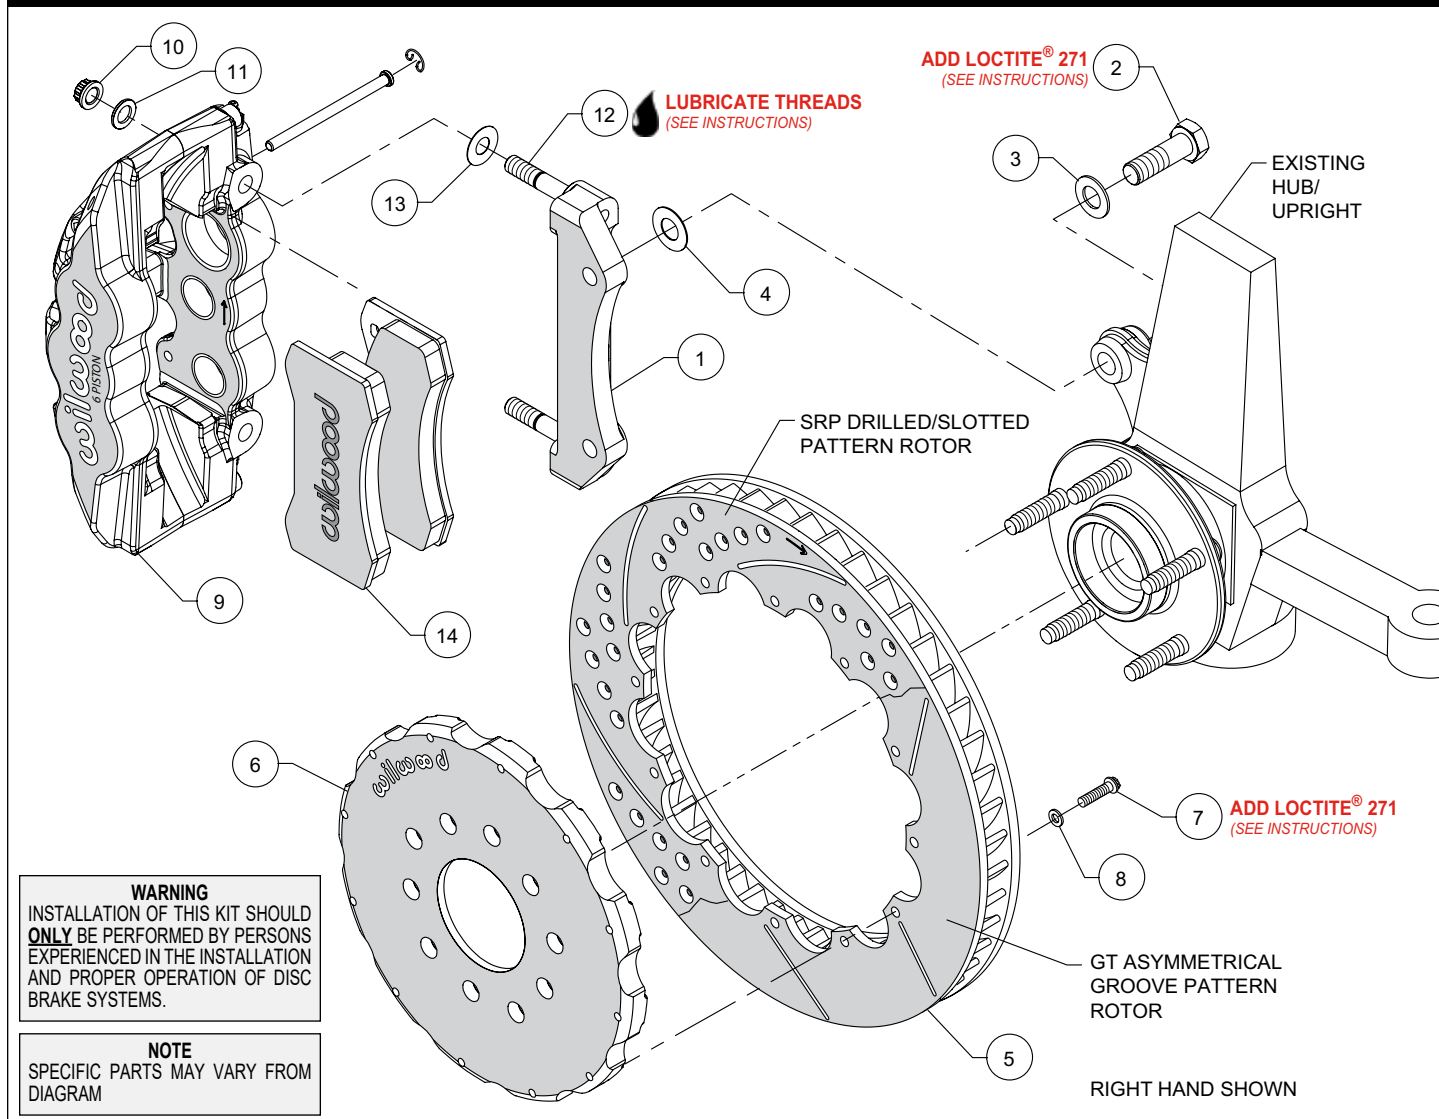
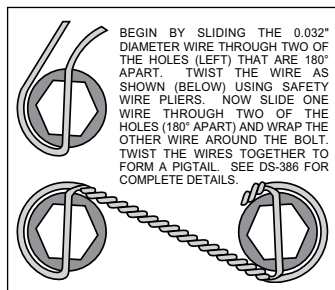

Figure 1. Typical Installation Configuration
Figure 3. Safety Wire Diagram
NOTE: Numbers in parenthesis refer to the parts list and Figure 1 on the preceding pages.
- The caliper mount bracket (1) should initially be installed with clean, dry threads on the mounting bolts. Orient the bracket, as shown in Figure 1 and Photo 1, and install using bolts (2) and washers (3). Initially place one .029" thick shim (4) on each bolt between the bracket and upright, Figure 1. Temporarily tighten the mounting bolts. **NOTE:** The bracket must fit squarely against the mount bosses on the upright. Inspect for interference from casting irregularities, machining ridges, burrs, etc. Later, after the caliper alignment has been checked, the mount bolts will be secured using red *Loctite*® 271.
- Orient the rotor (5) and the hat (6) as shown in Figure 1 and Photo 2. Attach rotor to hat using bolts (7) and washers (8). Apply red *Loctite*® 271 to the bolt threads and torque to 155 in-lb using a criss-cross pattern. For an added measure of security, the bolts may be safety wired using standard 0.032 inch diameter stainless steel safety wire as shown in Figure 3. Refer to Wilwood's data sheet DS-386 (available at www.wilwood.com/Pdf/DataSheets/ds386.pdf) for complete safety wire installation instructions.
- **NOTE:** This kit contains distinct right and left hand calipers that must be mounted in a specific direction, as described below. Lubricate the caliper mounting studs (12) with lightweight oil. Initially place one .030" thick shim (13) on each stud between the caliper and the bracket, as shown in Figure 1 and Photo 4. Mount the caliper (9) onto the bracket (1) using lock nuts (10) and washers (11), Figure 1. Temporarily tighten the lock nuts. Ensure that the caliper is mounted so the largest pistons are at the rotor exit end of the caliper, in relation to the direction of the rotor. View the rotor through the top opening of the caliper. The rotor should be centered in the caliper, Photo 5. If not, adjust by adding or subtracting shims (4) between the bracket and the upright. Always use the same amount of shims on each of the two mounting bolts. Once the caliper alignment is correct, remove the bracket mounting bolts (2) one at a time, apply red *Loctite*® 271 to the threads, and torque to 105 ft-lbs.
- Remove the caliper (9), then remove the two pad retaining pins from the caliper by carefully popping out the pin retaining clips and sliding out the pins. Insert the brake pads (14) into the caliper from the bottom, Figure 1 and Photo 6. With the friction material facing the rotor, secure the brake pads in place with the pad retaining pins and clips, Photo 7. Reinstall the caliper onto the caliper mounting bracket and temporarily tighten the lock nuts. Check that the top of the brake pad is flush with the outside diameter of the rotor, Photo 8. If not,